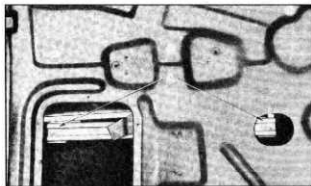

Fig. 12—Sash Channel to Cam Attaching Screws
6. Remove the two screws "A" (fig. 12) from each end of the sash channel to disengage the sash channel from the cam.
13. Install window glass assembly carefully, engage sash channel with cam and install two screws "A" (fig. 12) at each end of sash channel.